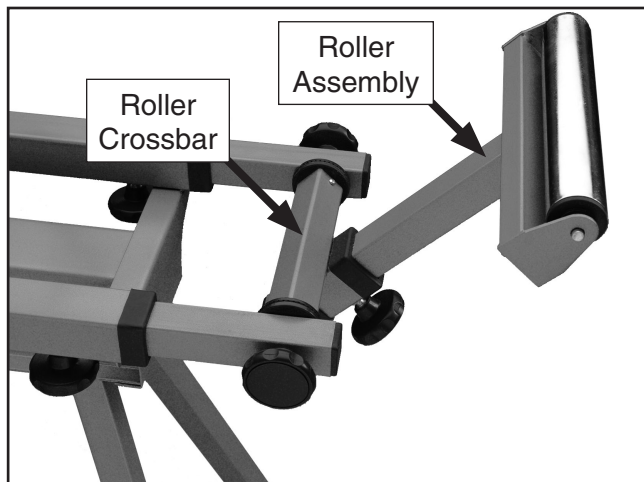

Figure 4. Support roller assembly.
6. Place the roller crossbar between the extension arms and thread in the M8-1.25 x 50 knobs as shown in **Figure 4**.
7. Slide the roller assembly into the crossbar and secure it with an M8-1.25 x 20 knob (**Figure 4**).